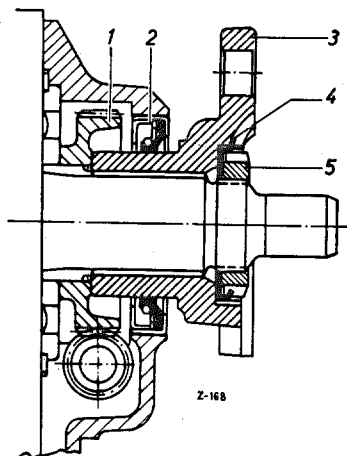

Fig. 26 — 4/20
48. Coat the outer edge of the plug with sealing compound and press it into the transmission case rear cover. Rear cover and sealing ring must be flush (Fig. 26 — 4/20).